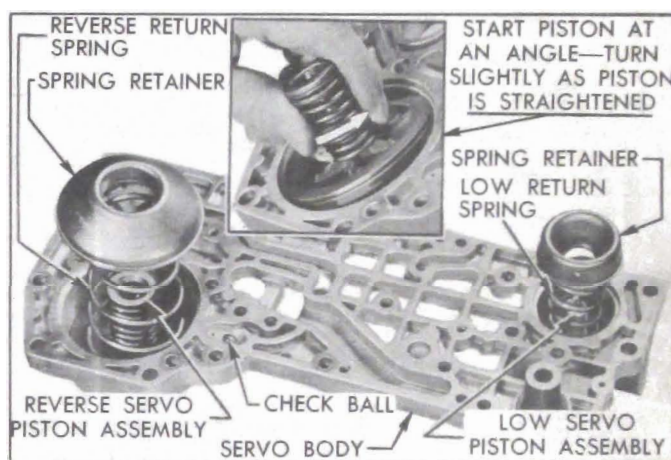

Figure 5-58—Parts Installed in Servo Body
4. Remove reverse and low servo piston spring seats, springs and pistons. Remove check ball from reverse servo feed channel. See figure 5-58.
1. Oil and install the low and reverse servo piston assemblies in servo body. To avoid curling or damaging edge of piston seal, start each piston into cylinder at an angle then turn piston slightly as it is straightened and pushed into cylinder. See figure 5-58. Check pistons for free movement in cylinders.
2. Install the small return spring with small end against the low servo piston. Install the large return spring with the large end against the reverse servo piston. Place spring seats on upper ends of both springs. See figure 5-58.
3. Place check ball in reverse servo feed channel. See figure 5-58.